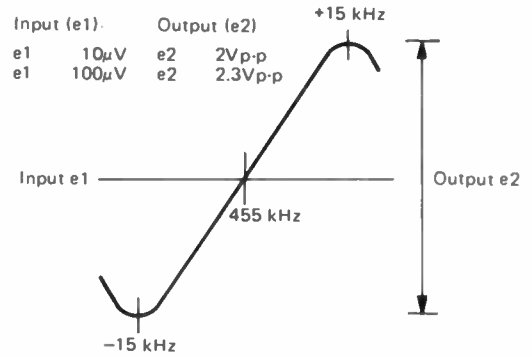

Figure 3. VHF LOW IF CHARACTERISTIC
- Step 3: For best linearity, adjust T2 and T3 in the IF Section so that the 455 kHz marker is at the center of the discriminator curve as shown in Figure 3.